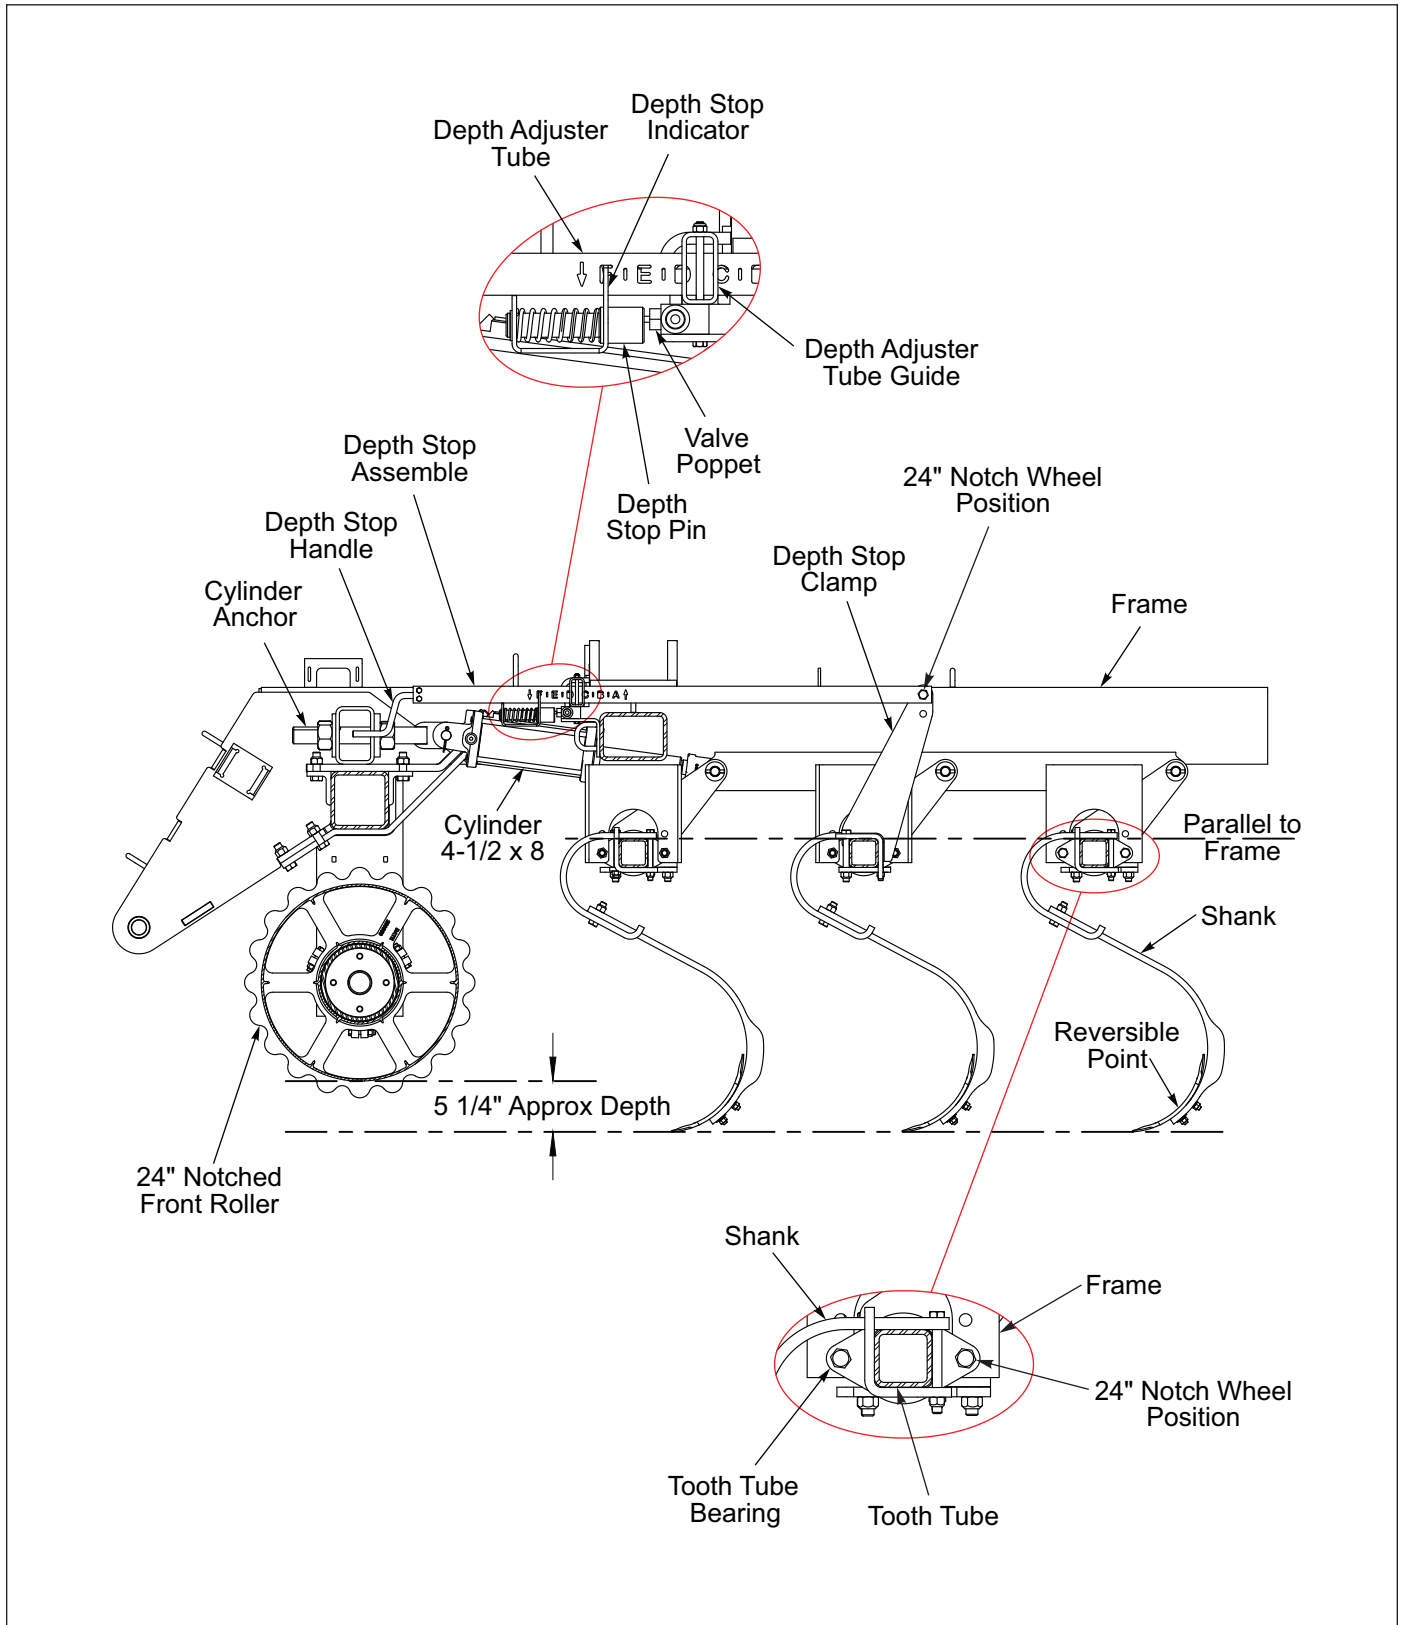

Figure 3-4: Single Point Depth Control
1. To set the Anchor Bolt unfold Pulvi-Mulcher, machine raised, with all Tooth Control Cylinders fully extended. Shanks should be set with Tooth Tubes parallel to the Frame. **See Figure 3-4.**
If making adjustment all Tooth Tube Bearing should be assembled in the same position. **See Figure 3-4.**
2. Adjust the Shank Depth by turning the Depth Stop Handle until the desired letter that matches the required shank depth is centered on the depth Stop Indicator. **See Figure 3-4.**
3. Front and Rear Rollers are used to gauge the depth of the shanks. **See Figure 3-4.**